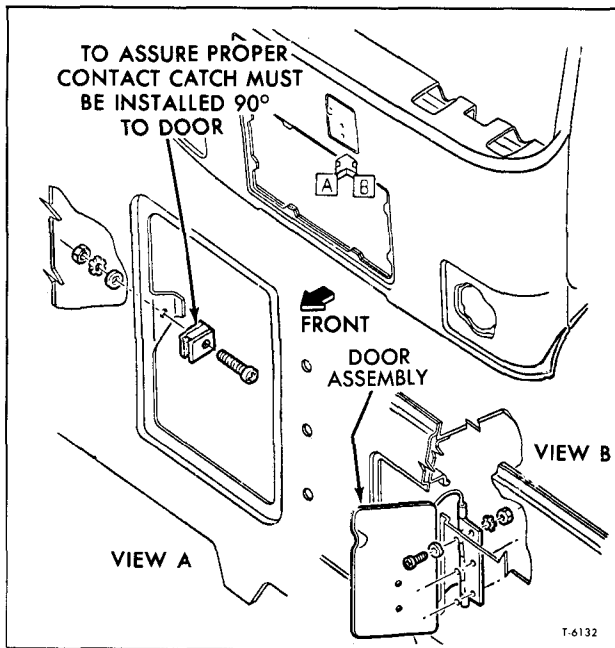

Figure 36—Service Door Installation
Each door may be removed by removing three (3) hinge attaching screws (fig. 36). When installing attaching screws, center door in opening and tighten screws snugly. If magnetic catch was removed, be sure to position contact surface of magnet 90 degrees to door and tighten attaching screw firmly.